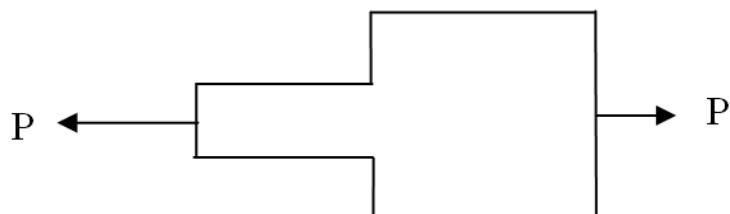

Figure Q3[a]
- Q3. [a] Explain stress concentration concept using flow lines analogy. Also, suggest methods of reducing stress concentration effect for the plate shown in Figure Q3[a].